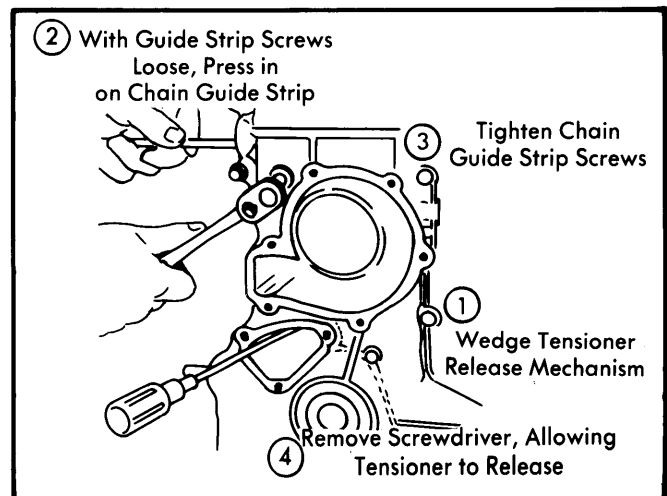

Fig. 3 Adjusting Timing Chain Tension
4) Remove valve cover. Remove distributor with plug wires. Remove timing chain tensioner cover and release chain tension. See Fig. 3. Refer to *Timing Chain Tension* in this article.